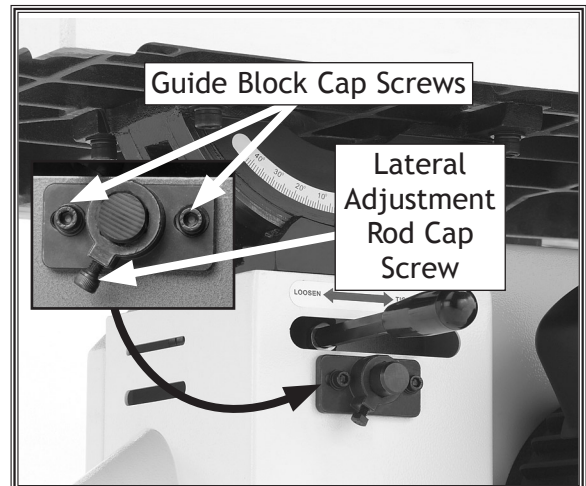

Figure 31. Lower blade guide controls (rear view).
Note: The lateral adjustment rod cap screw and guide block cap screws are located below the table tilt lock lever (see Figure 31).
- If the blade is not perpendicular to the support bearing, loosen the lateral adjustment rod cap screw and guide block cap screws (**Figure 31, Page 24**) and rotate the assembly side-to-side until it is perpendicular to the face of the support bearing, then re-tighten the cap screws.